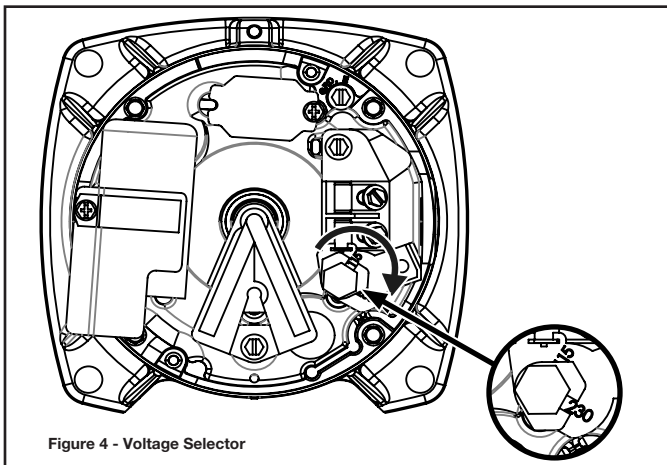

Figure 4 - Voltage Selector
- The voltage of power supply must match the voltage of the pump. The motors can be converted to 115 or 230 volts by changing the voltage selector to the desired voltage. Remove rear cover of motor by unscrewing both screws to expose voltage selector. Rotate dial so desired voltage is completely visible within notch (Figure 4).